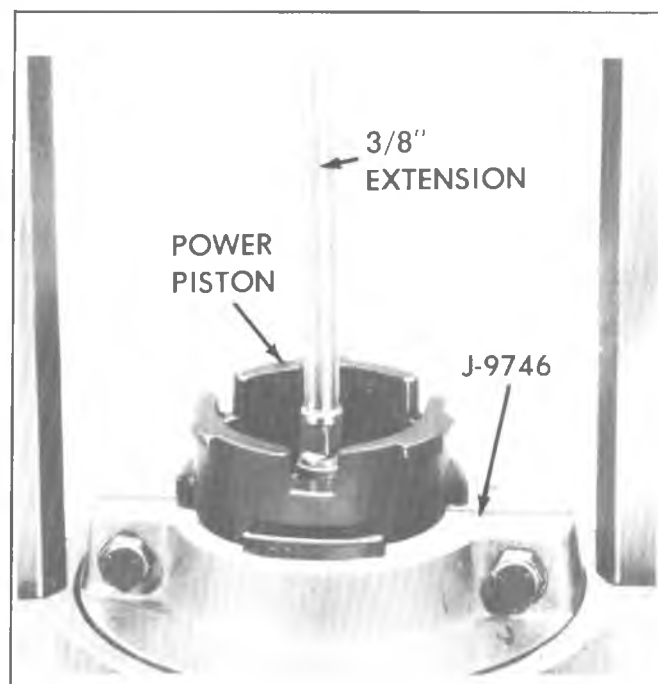

Fig. 5-12C--Removing Air Valve Assembly
11. Set up Power Ram and Hydraulic Pump with J-9746 Press Plate. Insert power piston, tube down, in press plate and remove air valve assembly using a 3/8" drive extension as a remover (fig. 5-12C).